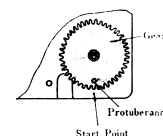

Fig. 8
- (3) Insert gear to the shaft of tuning gang after setting protuberance of the gear to starting point of the bracket, as illustrated in Fig. 8.